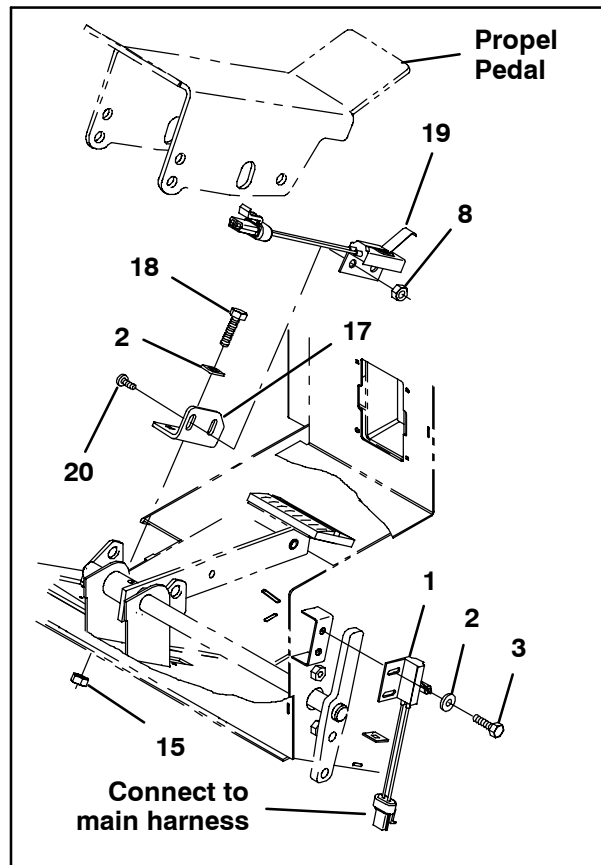

FIG. 4
- Use two hex nuts (8) and two pan screws (20) to install the switch (19) onto the reverse switch bracket (17). Refer to Fig. 4.
- Use two hex screws (18), two washers (2), and two hex nuts (15) to install the reverse switch bracket (17) onto the machine. Refer to Fig. 4.
- Use two hex screws (3) and two washers (2) to install the limit switch (1) onto the machine. Refer to Fig. 4.